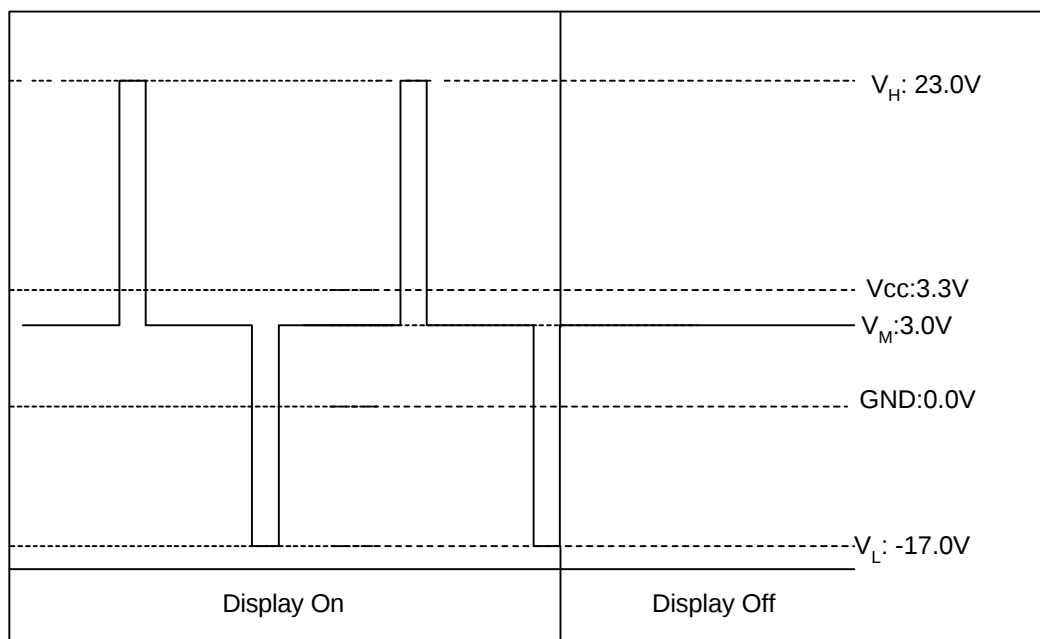

Figure 8-2. LCD Common Drive Output Waveform & Voltage Level
3. The voltage relationship of each signal is illustrated in Figure 8-2: